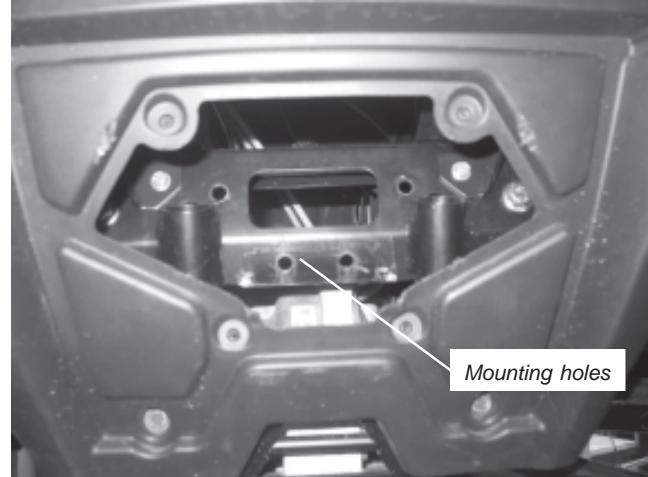

Figure 2
2. Locate mounting holes to attach front armor plate to frame as shown in Figure 2.